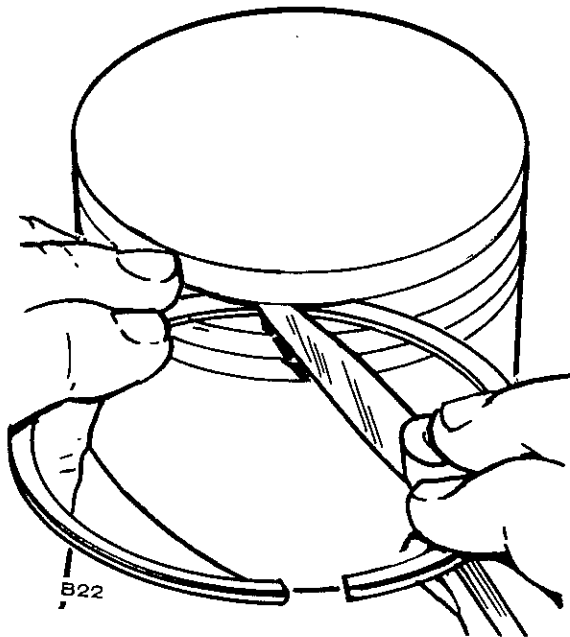

FIGURE 16-4. CHECKING RING SIDE CLEARANCE
- Inspect pistons for fractures at ring lands, skirts and pin bosses. Check for wear at ring lands using a new ring and feeler gauge as shown in Figure 16-4.